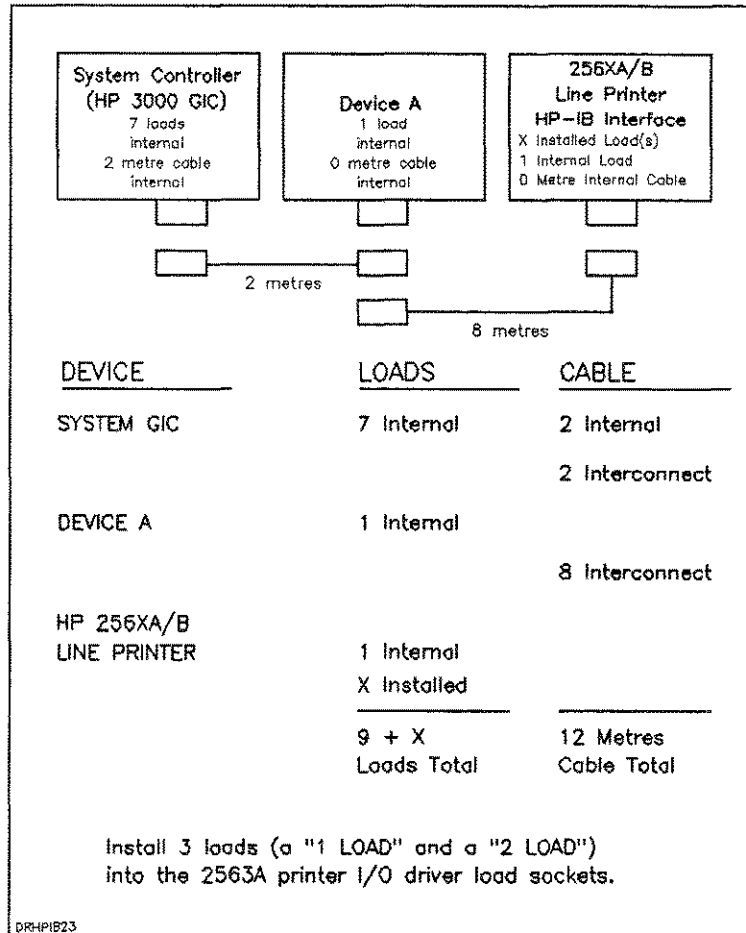

Figure 2-3. HP-IB Cable Loading Example
- If, For example, a system includes an HP3000, an HP 2563A Line Printer, and some other device (DEVICE A) as shown in figure 2-3, the loads are calculated as shown. For the number of loads to equal the number of metres of cable (12 metres), 3 loads need to be added since nine are already available. Thus, a 1 load and a 2 load resistor pack can be installed into the I/O driver load sockets, from the load storage sockets, to increase the number of total loads to 12.